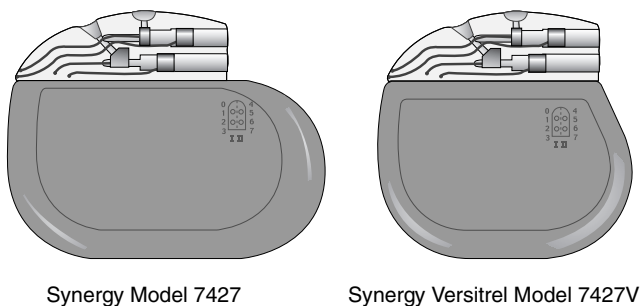

Figure 1. Synergy Model 7427 and Synergy Versitrel Model 7427V Neurostimulators.
- The functionality of the Synergy Versitrel and Synergy Neurostimulators is identical; however, the longevity of the Synergy Neurostimulator is longer than that of the Synergy Versitrel Neurostimulator. Refer to Table 10 on page 60 in “Specifications” for an overview of physical differences between the two models. Figure 1 is a comparison of the size and shape of the Synergy and Synergy Versitrel Neurostimulators.